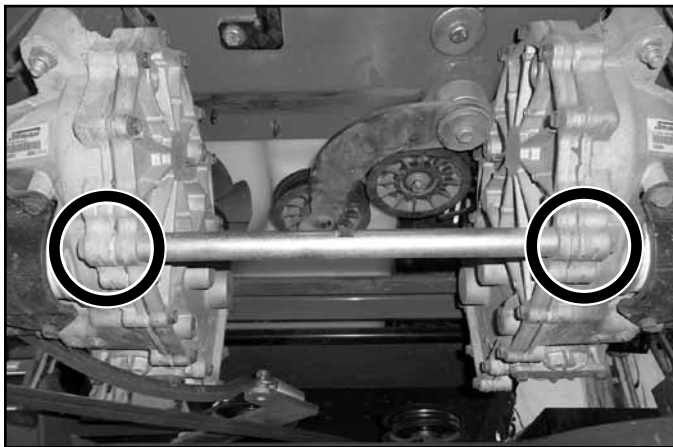

Fig. 074
11. Remove the (2) bolts that secure hydro center support. Remove support from the unit (Fig. 074).